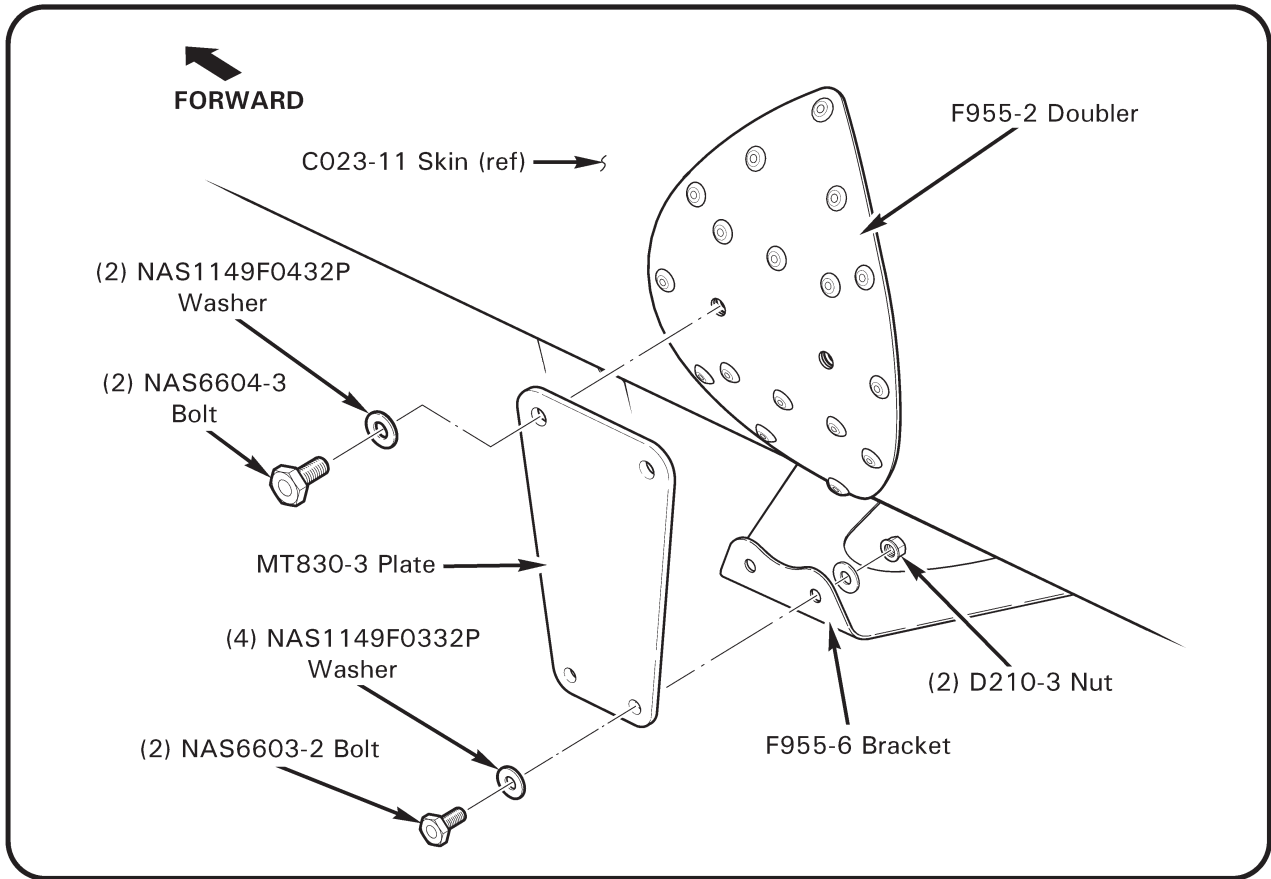
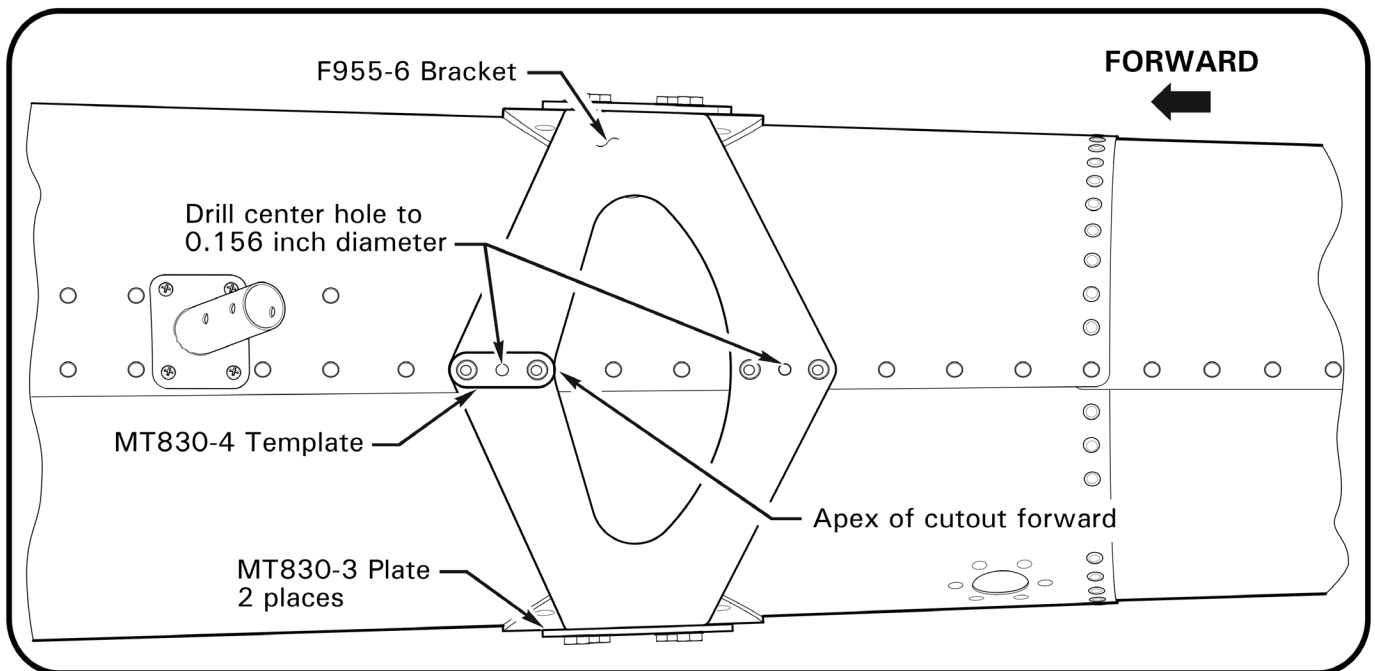

FIGURE 8 MT830-3 plate installation
FIGURE 9 Drilling of F955-6 bracket
15. Refer to Figure 8. Using hardware provided in kit, install one MT830-3 plate to each side of tailcone, and attach F955-6 bracket (apex forward as shown in Figure 9) to plates.
16. Refer to Figure 9. Using hole finder and #30 drill fitted with drill stop, locate holes in tailcone and progressively match drill & cleco (4) holes thru F955-6 bracket. Enlarge holes in bracket & tailcone to 0.156-0.164 inch diameter using #21 drill fitted with drill stop. Temporarily attach MT830-4 template to bracket & tailcone using clecos. Drill 0.156-0.164 inch diameter center hole thru template, bracket & tailcone. Repeat process in 2nd position. Remove MT830-4 template, MT830-3 plate, and F955-6 bracket. Deburr holes & clean up debris. At installer's discretion, chemically treat and/or prime/paint hole edges as described in NOTE in step 11.